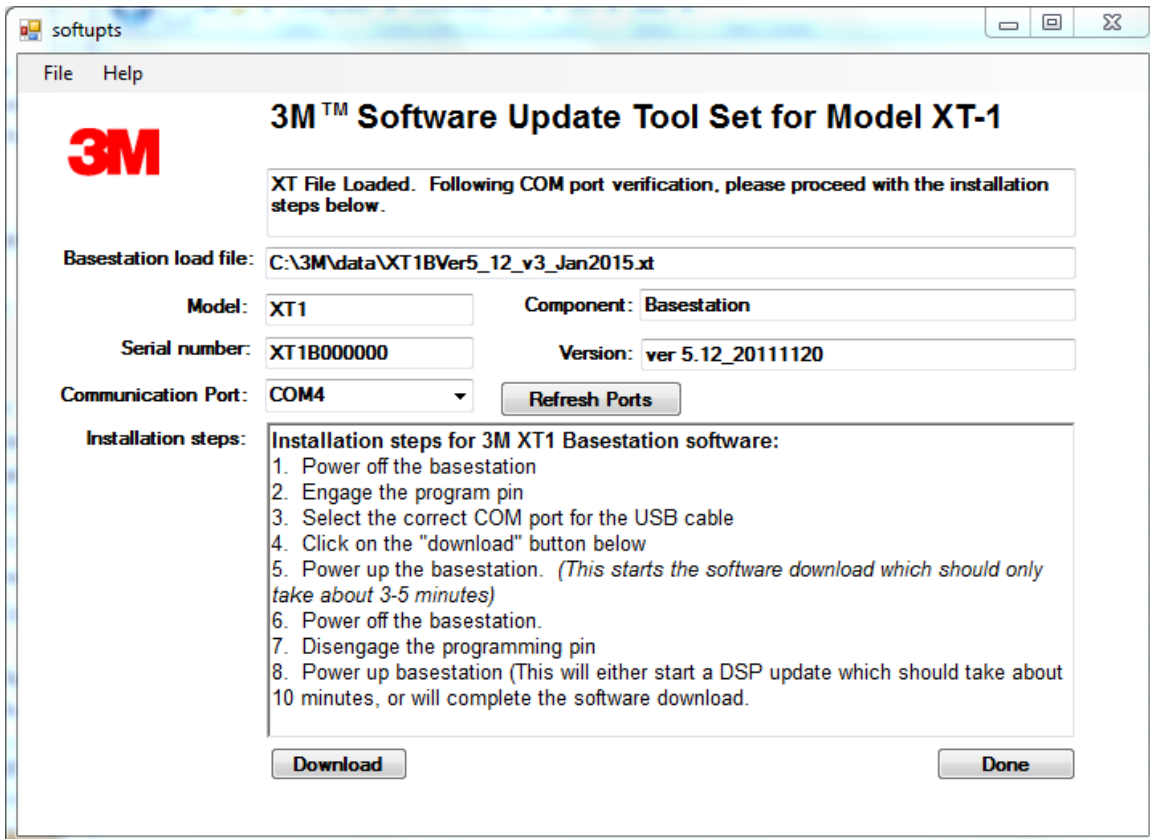

Fig. 5 – Softupts Main Screen
6. Select the **Download** button on the **Softupts** window. (*see Fig 5*).